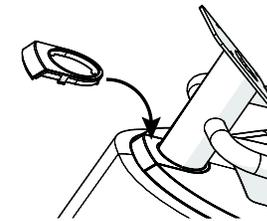

Figure 16
8. Wrap the gasket around the center support below the heart rate sensor grips, then fit it into the top cover making sure the edges of the seal are flush with the top cover (see Figure 16).